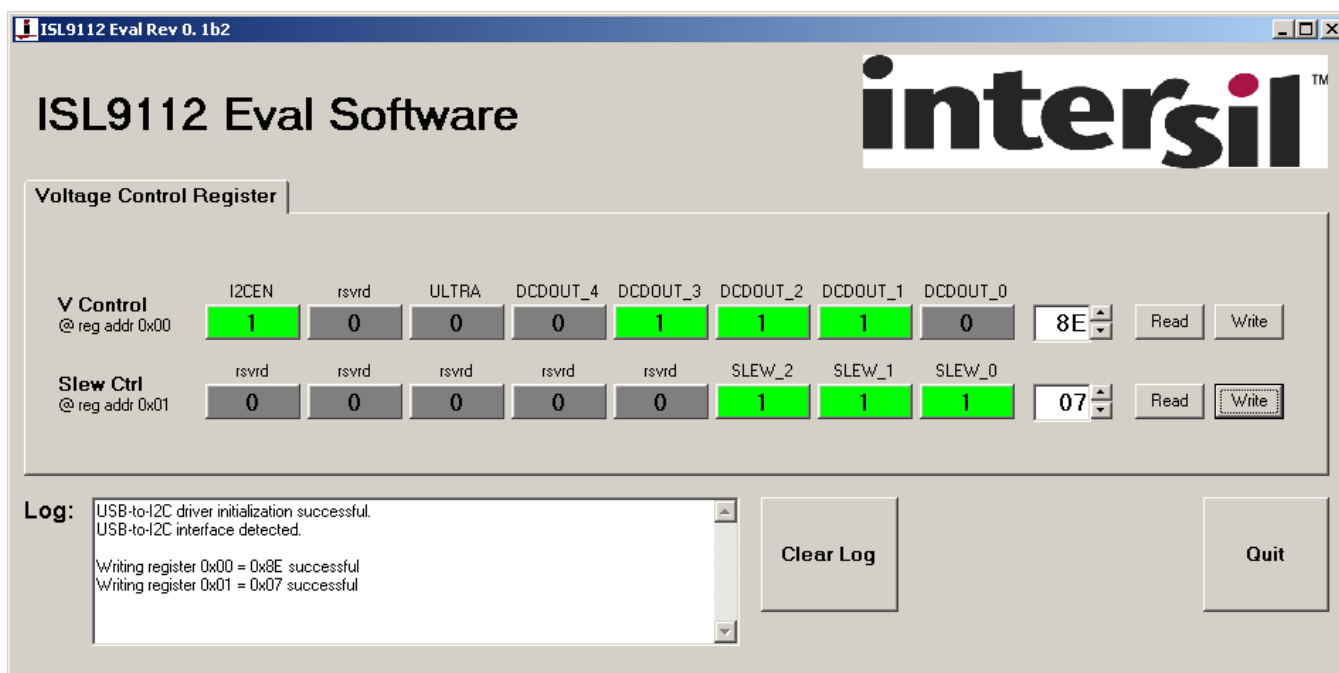

FIGURE 1. ISL9112 EVALUATION SOFTWARE WINDOW
- When launched, the ISL9112 evaluation software detects the ISLUSB2I2C interface. At the bottom of the ISL9112 application window is a Log textbox. The message in this textbox should report: "USB-to-I2C driver initialization successful" and "USB-to-I2C interface detected." See Figure 1. If this message is not displayed, please check connections and try reinstalling the ISLUSB2I2C driver.